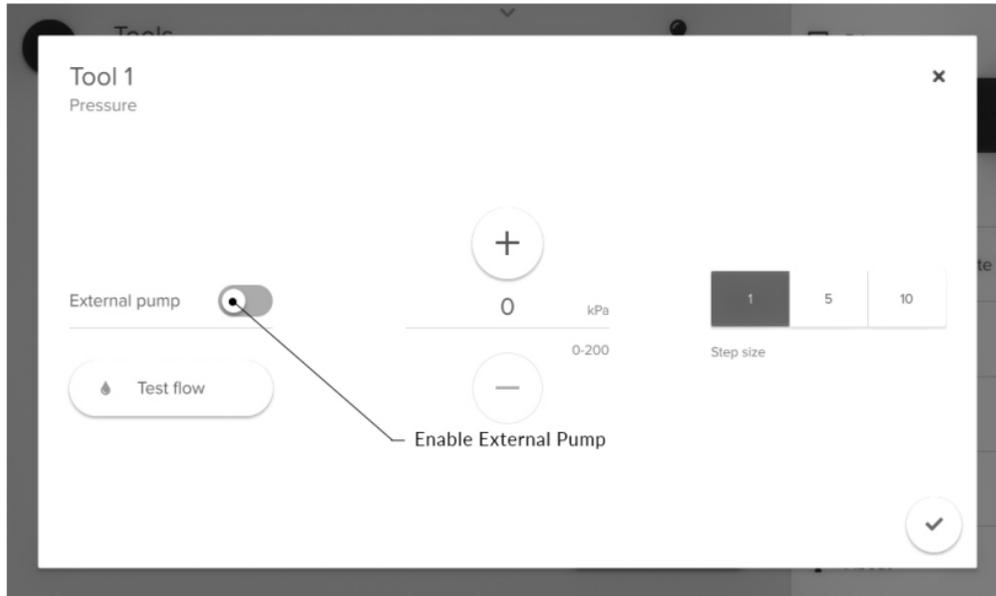

Figure 7: Enabling the use of the external air supply through the Utilities menu.
2. Navigate to the Utilities menu and select the Tools submenu. Select Pressure and toggle the External Pump. Toggle the External Pump setting to enable the external air supply in the Utilities menu. The system will reflect the new maximum pressure that can be set from the external air supply (Figure 7).